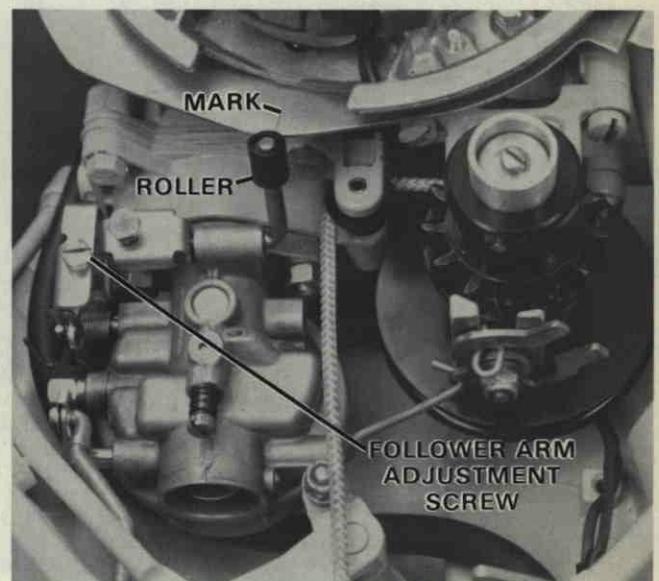

Figure 34. Checking Throttle Cam Mark and Roller.
E. Slowly advance throttle until throttle shaft begins to move. Check relation of roller to cam mark. Mark on cam must be in center of roller or within 1/32" (0.79 mm). Turn adjusting screw on follower arm to make adjustment. Figure 34.